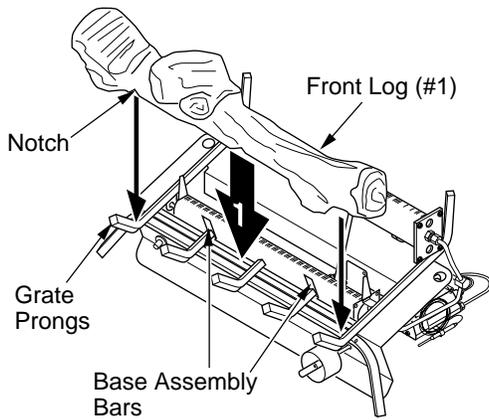

Figure 21 - Installing Front Log (#1)
1. Place front log (#1) on top of the grate. Make sure the notches in the bottom of the log fit over the grate prongs (see Figure 21, page 15). Push back of logs flush with metal grate bars.